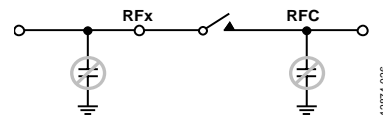

Figure 70. Avoid Having a Large Capacitor Directly Connected to the MEMS Switch
- Avoid connecting large capacitive terminations directly to the switch, as shown in Figure 70. A shunt capacitor can store a charge that potentially leads to hot switching events when the switch opens or closes, affecting the lifetime of the switch.